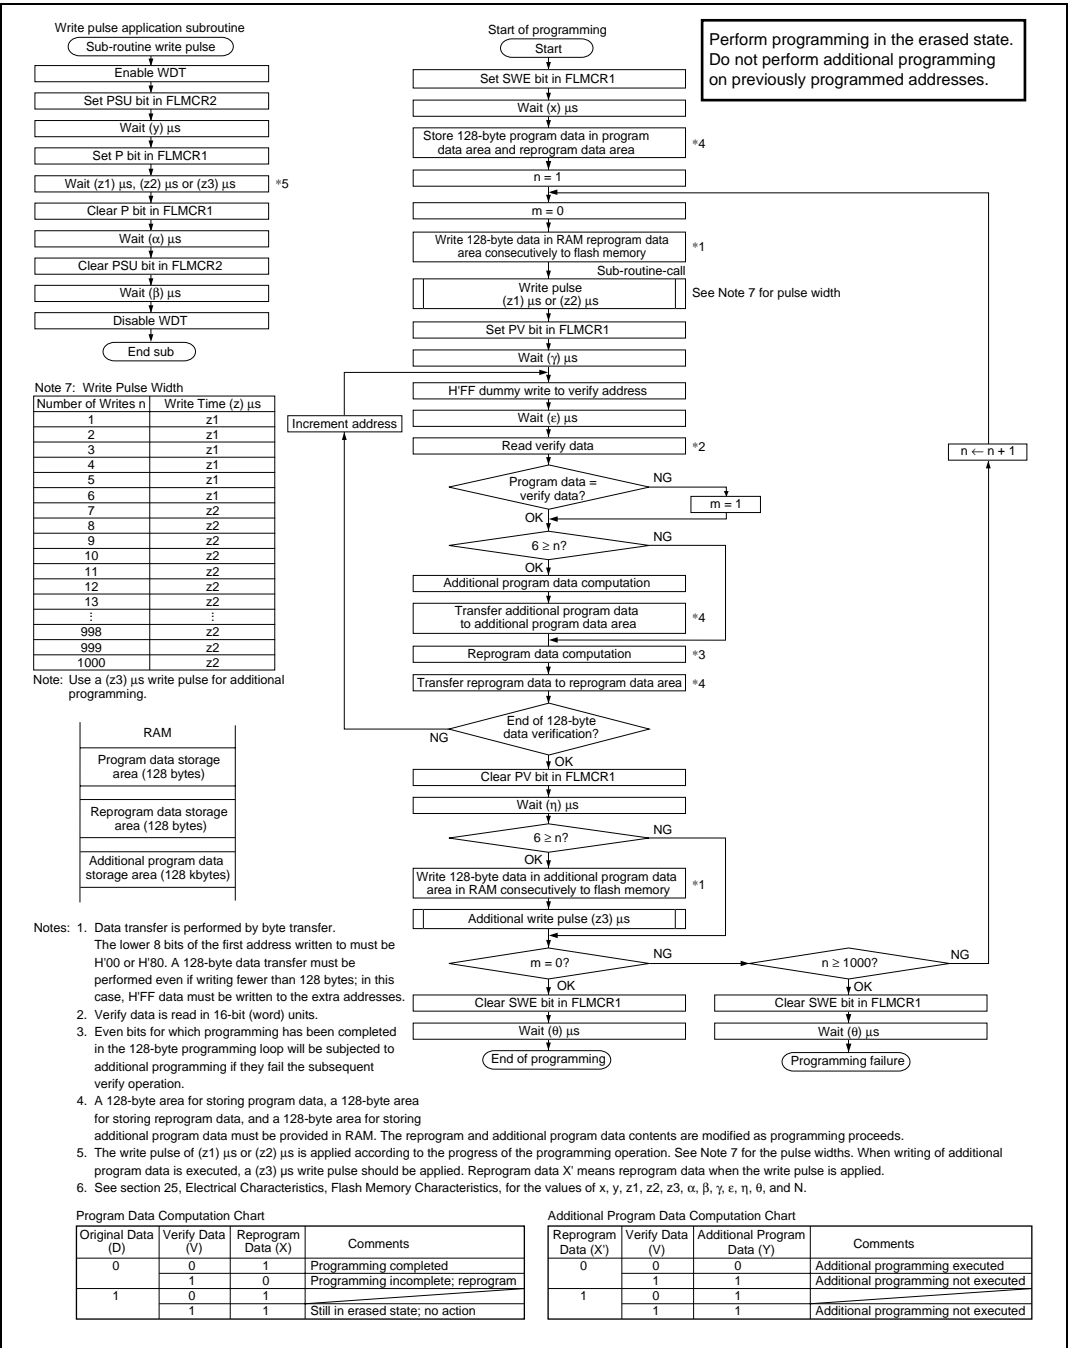

Figure 22.12 Program/Program-Verify Flowchart
Follow the procedure shown in the program/program-verify flowchart in figure 22.12 to write data or programs to flash memory. Performing program operations according to this flowchart will enable data or programs to be written to flash memory without subjecting the device to voltage stress or sacrificing program data reliability. Programming should be carried out 128 bytes at a time.
After the elapse of a given programming time, the programming mode is exited (the P bit in FLMCR1 is cleared, then the PSU bit in FLMCR2 is cleared at least (α) μ s later). The watchdog timer is cleared after the elapse of (β) μ s or more, and the operating mode is switched to program-verify mode by setting the PV bit in FLMCR1. Before reading in program-verify mode, a dummy write of H'FF data should be made to the addresses to be read. The dummy write should be executed after the elapse of (γ) μ s or more. When the flash memory is read in this state (verify data is read in 16-bit units), the data at the latched address is read. Wait at least (ϵ) μ s after the dummy write before performing this read operation. Next, the originally written data is compared with the verify data, and reprogram data is computed (see figure 22.12) and transferred to the reprogram data area. After 128 bytes of data have been verified, exit program-verify mode, wait for at least (η) μ s. If the programming count is less than 6, the 128-byte data in the additional program data area should be written consecutively to the write addresses, and additional programming performed. Next clear the SWE bit in FLMCR1, and wait at least (θ) μ s. If reprogramming is necessary, set program mode again, and repeat the program/program-verify sequence as before. However, ensure that the program/program-verify sequence is not repeated more than (N) times on the same bits.